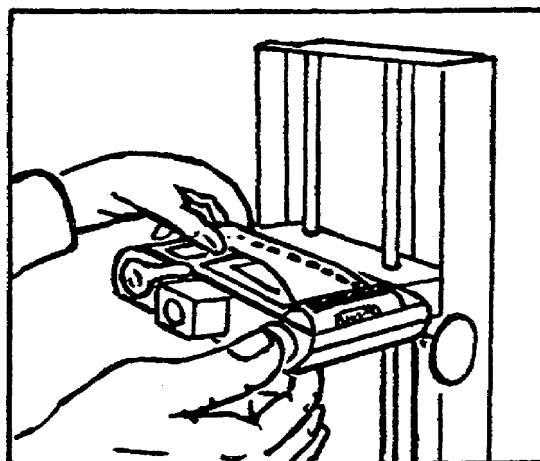

Figure 1-18. Push Rewind Crank.
e. After the cassette is placed in position, push the rewind (shaft) crank back into the original position (fig 1-18). While maintaining a slight pressure on the handle with your right hand, bring the film tab across to the left side.